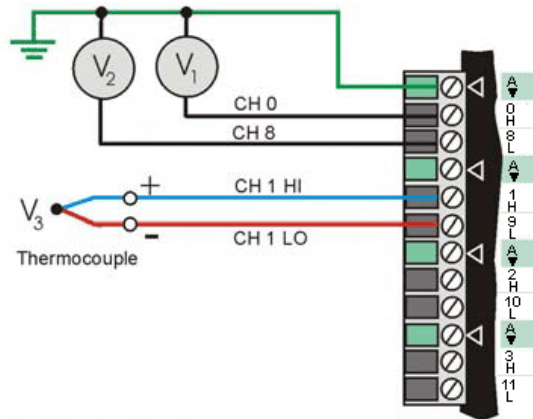

Figure 1. Single-ended voltage connections (V₁ and V₂) and differential thermocouple connections (V₃)
- Connect voltage signals as single-ended or differential connections (see Figure 1).
- Connect thermocouple signals as differential connections (see Figure 1). The negative (typically, the red) thermocouple wire connects to the channel's LO connector, and the other color wire connects to the channel's HI connector.